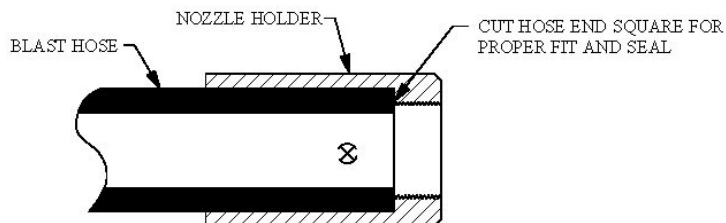

Figure 8.3 – Hose End Fit up
- 8.8. **Blast and Air Hoses:** All air hose, blast hose, and threaded couplings have gaskets that seal the connection. To reduce loss of air pressure and/or premature abrasive wear replace these gaskets when leaks are found. Inspect the couplings daily for leaks and wear. Replace gaskets when visible wear or leaks are found. When installing or replacing hose couplings cut the hose end square for secure fit (see Figure 8.3). To insure proper coupling connection always use fittings that are the same brand. See the drawings and part lists in Section 9.0.